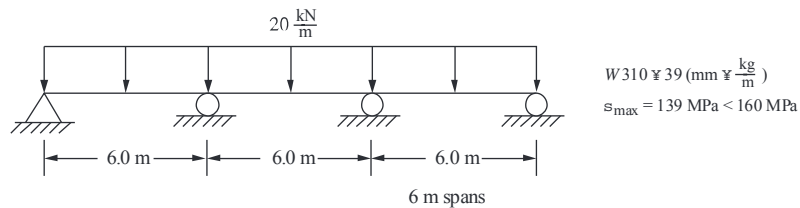

Figure P4 –34
- 4.34 Select a standard W section from Appendix F or some other source to support the loads shown for the beam in Figure P4–34. The bending stress must not exceed 160 MPa.